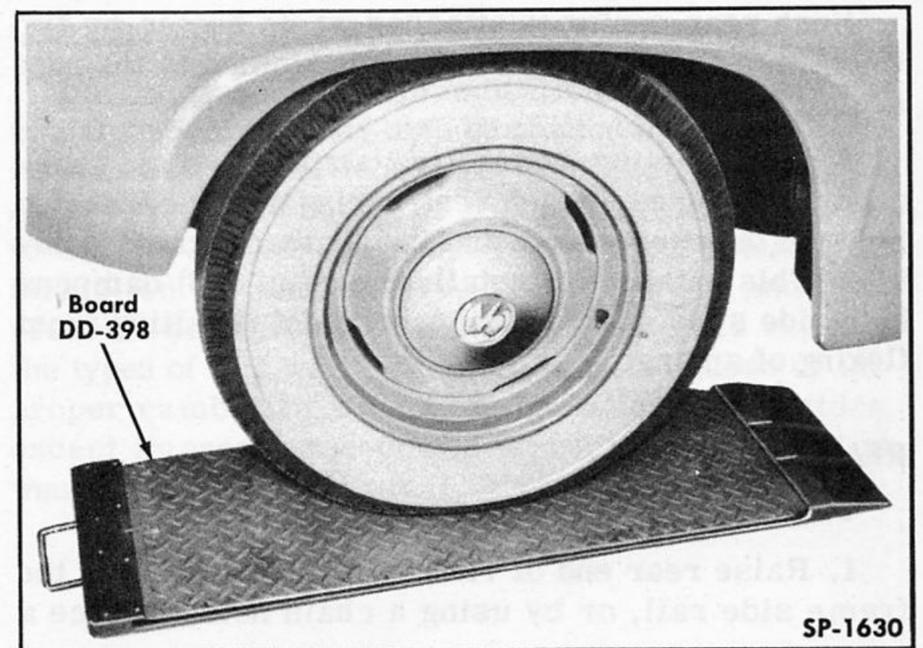

Fig. 171—Checking Toe-In
2. As front wheel passes over center of board (Fig. 171), observe indicator on board. Movement of indicator outward shows toe-in, while indicator movement inward shows toe-out. **TOE-IN OF 1/4 INCH IS DESIRED BUT 3/16 TO 1/4 INCH TOE-IN IS PERMISSIBLE.**